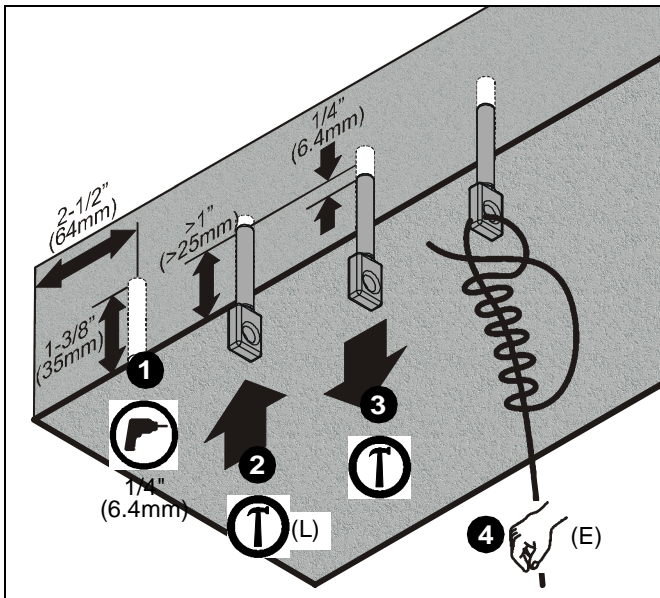

Figure 8
1. Drill 1/4" (6.4mm) diameter x 1-3/8" (35mm) deep hole at each marked wire anchor support location (See Figure 8). Ensure hole is at least 2-1/2" (64mm) from nearest concrete edge. Remove debris from hole.
2. Tap anchor (D) into each hole to a depth of at least 1" (25mm) (See Figure 8).
3. Using claw portion of hammer, set each anchor (D) by pulling it out of hole approximately 1/4" (6.4mm) (See Figure 8).
4. Insert support wire (E) through hole in anchor. Twist wire tightly around itself at least 4 complete turns, and then thread loose end between anchor and first turn (See Figure 8). Repeat for 3 remaining support locations.